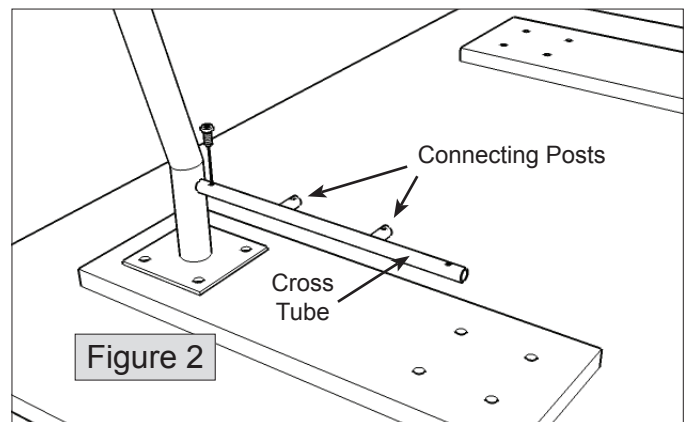

Figure 2
4. Connect cross tube to connecting post on first leg using 1/2" Allen bolt, as shown in figure 2. Be sure the 2 connecting posts on cross tube face the center of table. Keep bolt slightly loose for now.